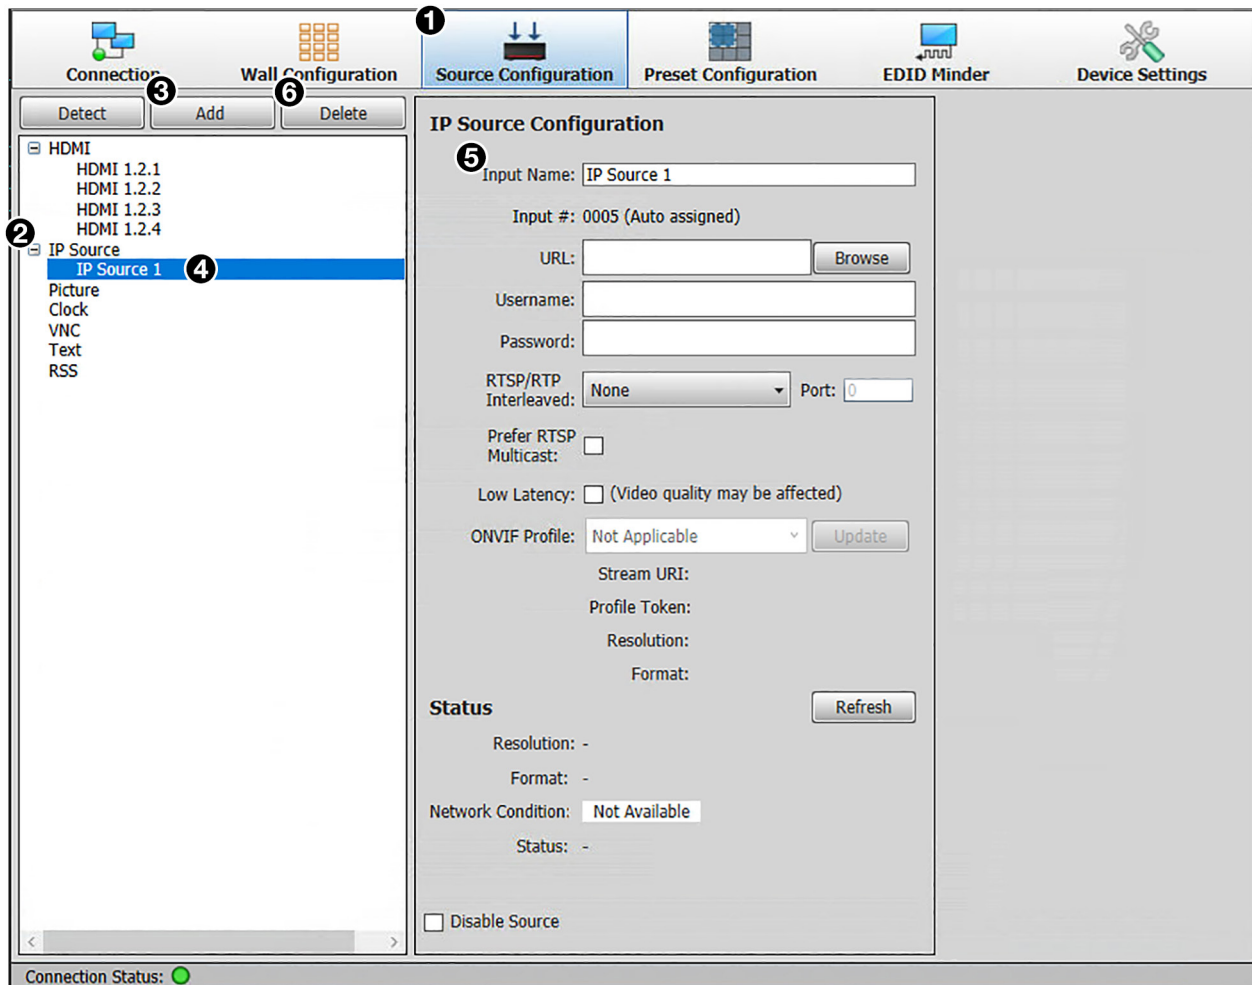

Figure 10. Source Configuration Window (IP Source Example)
1. On the taskbar, click the **Source Configuration** button (see figure 10, 1 on the next page) to display the Source Configuration screen.
- 3. Add a source.** Click **Add** (see figure 10, ③) to add a source of the selected type, or right-click the source type to add and select **Add** from the pop-up menu. One or more source names are added in the Source Configuration Tree below the source type (④).
NOTE: The number of sources added depends on the cards installed in your unit. For example, if one HDMI input card is installed, selecting **HDMI** displays four source names, as shown in figure 10).